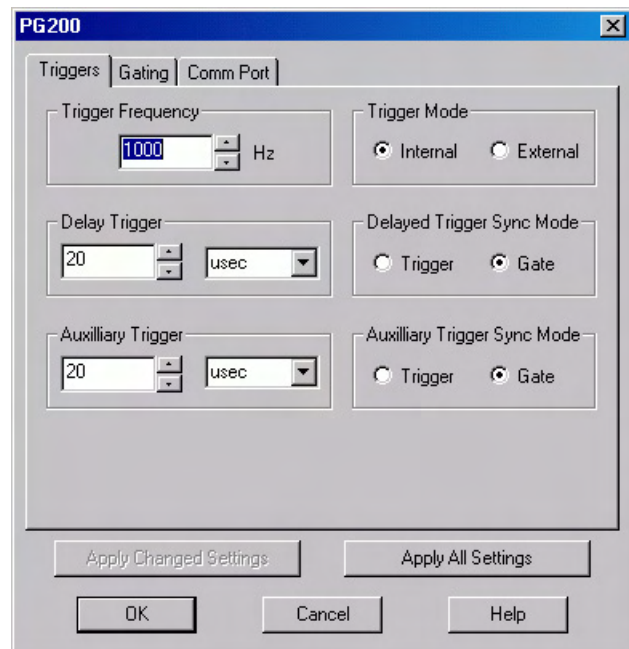

Figure 171. PG200 Triggers tab page
8. Click on the **Triggers** tab (Figure 171).